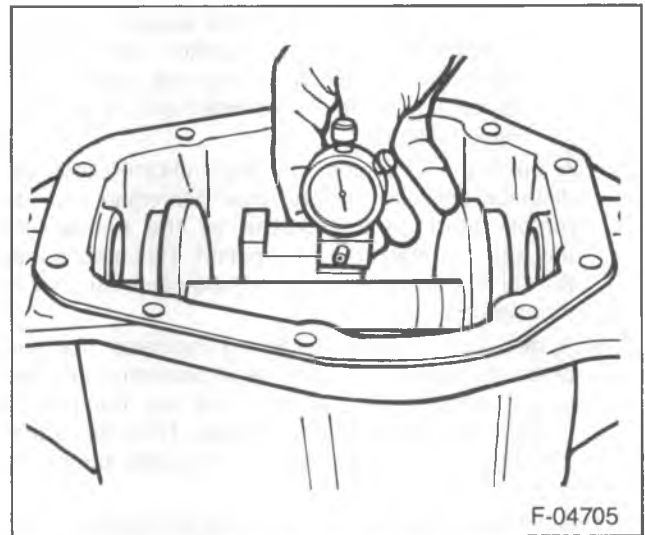

Figure 66—Scooter Gage on the Height Block
6. Place D-115 onto the height block (figure 66).